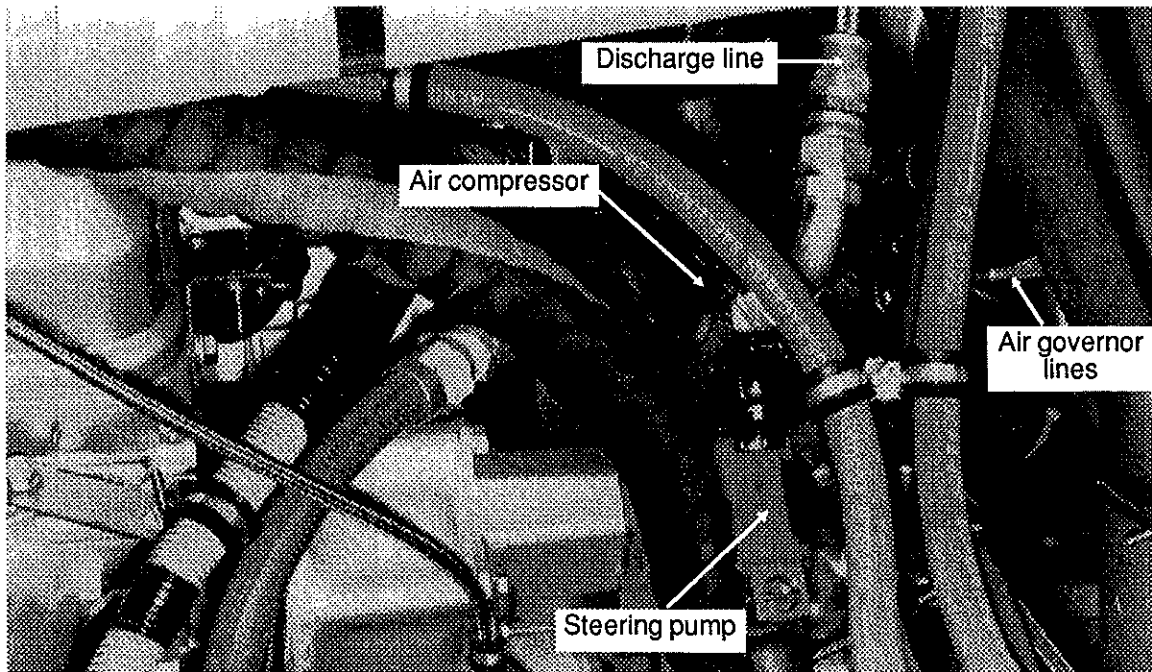

FIG. 5
15. Disconnect the air compressor discharge and governor air lines (see fig. 5).
16. Disconnect the steering pump oil discharge hose (see fig. 5).